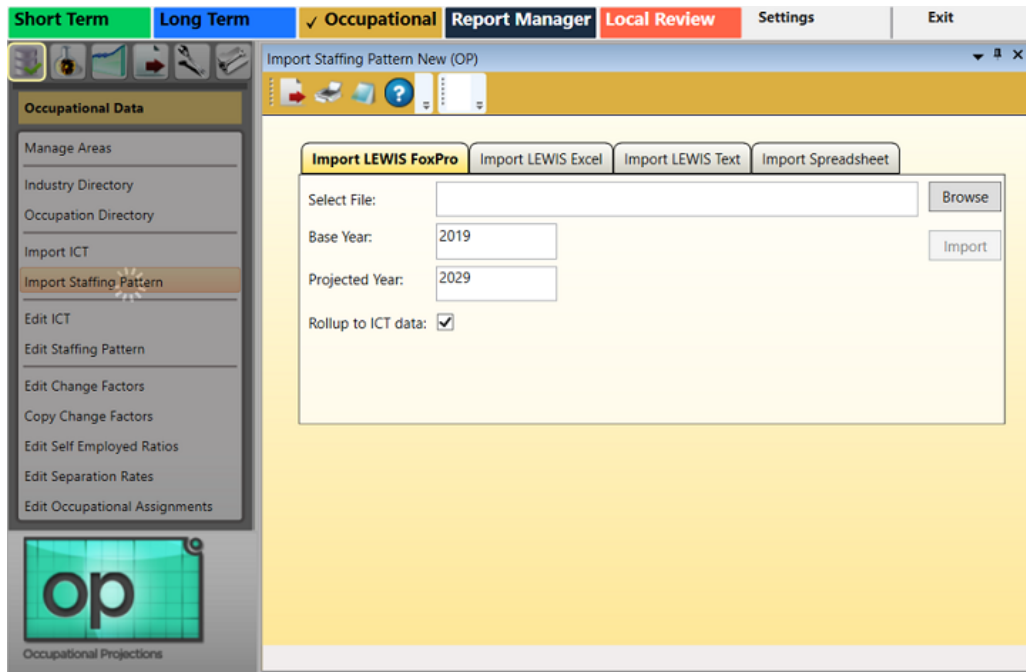

Figure 1: Import Staffing Pattern module
-  All tab layout images match Figure 1 under each of the tabs, except for the **Import Spreadsheet** tab. Another image will be included in that section, for reference.